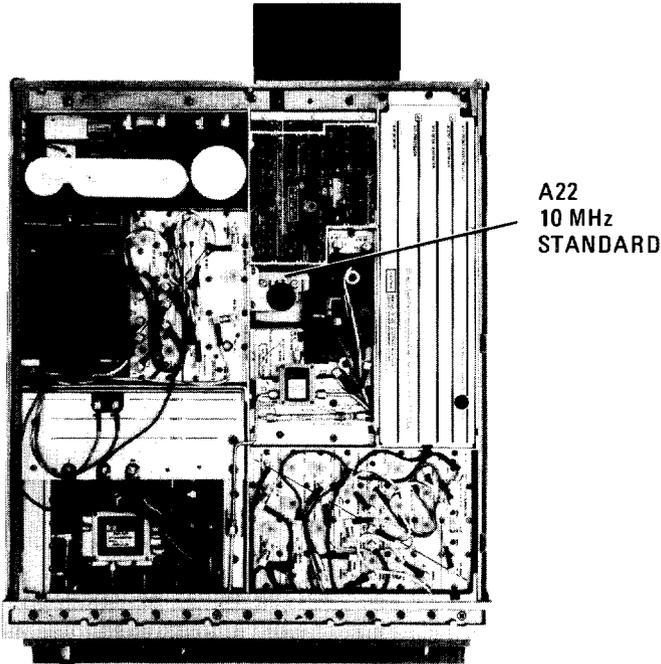

FIGURE 39. LOCATION OF 10 MHz STANDARD ADJUSTMENTS
9. Adjust A22 COARSE frequency adjust for minimum sideways movement of the displayed signal. Adjust A22 FINE frequency adjust for minimum sideways movement of the displayed signal. No sideways movement indicates that frequency standard and internal time base frequency are the same. Refer to Figure 39 for location of A22 10 MHz Standard.